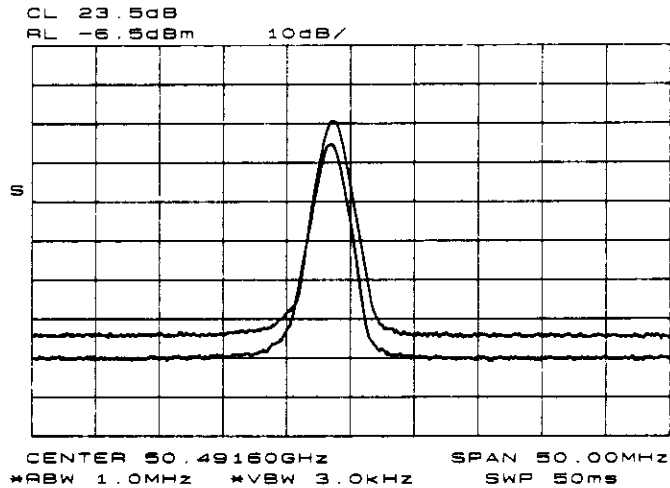

**Figure 3-34. Signal responses produced by a 50 GHz signal in U band.**
3. The IF output of a harmonic mixer contains many mixer products (frequencies of  $LO \pm \text{source}$ ,  $2LO \pm \text{source}$ ,  $3LO \pm \text{source}$  ...  $nLO \pm \text{source}$ ). As a result, within a single harmonic band, a single input signal can produce many responses, only one of which is valid. These responses come in pairs, where the members of the valid pair are spaced 621.4 MHz apart (see Figure 3-34) and the right-most member for the pair is the correct response (for this analyzer, the left member of a pair is not valid).